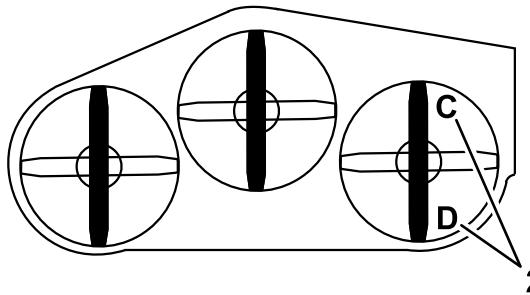

Figure 80
1. Position the right blade front-to-rear (Figure 80).
2. Measure the right blade at the **C** location, from a level surface to the cutting edge of the blade tip, and record this measurement (Figure 80).
3. Measure the right blade at the **D** location, from a level surface to the cutting edge of the blade tip, and record this measurement (Figure 80).
**Note:** The mower blade should be 6 to 10 mm (1/4 to 3/8 inch) lower at position **C** than at position **D** (Figure 80). If it is not correct, proceed to the following steps.
2. Position the right blade front-to-rear (Figure 80).